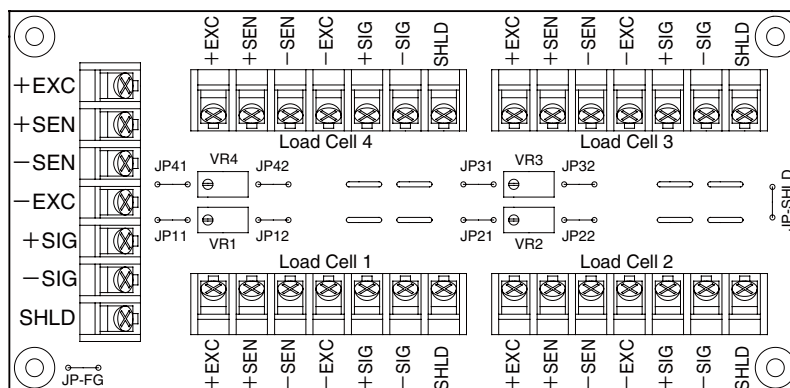

Figure 2
- Refer to Figure 2 for the terminal assignment on the board.